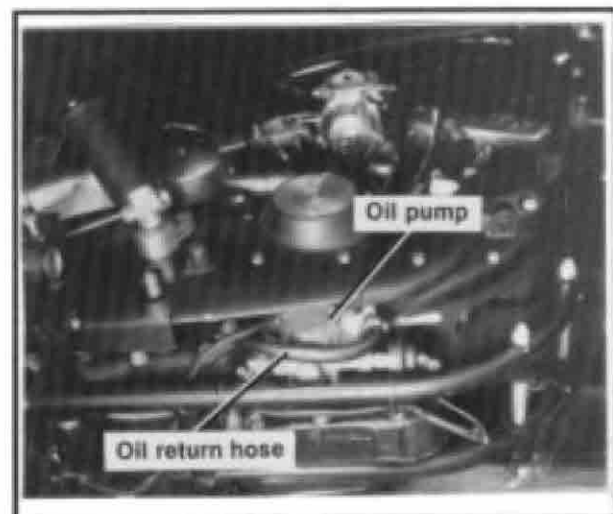

Figure 2. Oil Pump
2. Secure oil cooler (3) to mounting bracket (2) with bolts (8) and lockwashers (10). Tighten bolts to 12 ft-lbs torque.
3. See figure 2. Remove the oil return hose, at the oil pump. Cut off one inch from the hose end to expose a new section for reconnection.